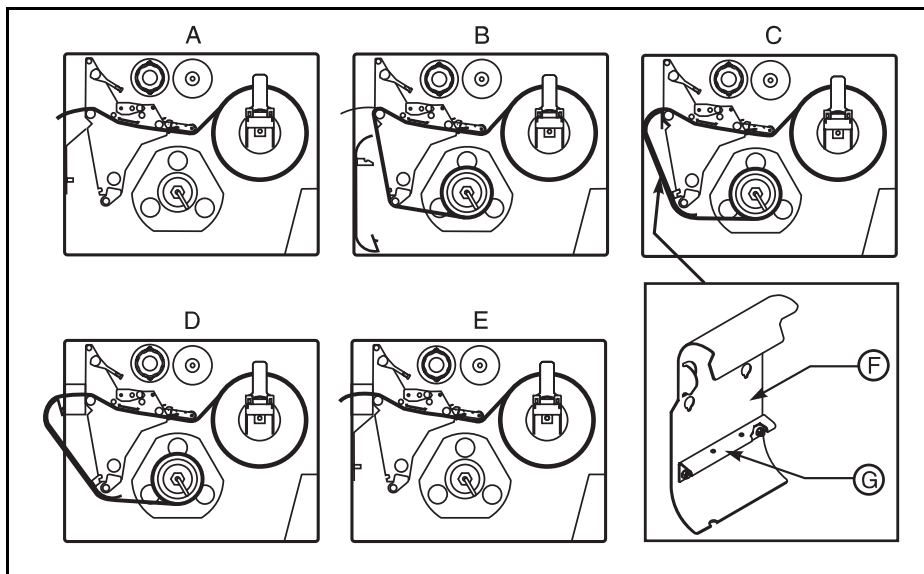

Figure 2. Roll Media Loading
### Roll Media Loading in Tear-Off Mode (Fig. 2-A)
## **Peel-Off Mode (Fig. 2-B)**
## **Rewind Mode (Fig. 2-C and 2-D)**
1. Remove the Media Rewind Plate (Fig. 2-F) from its storage location in front of the print mechanism inside the media compartment.
2. Invert the Rewind Plate so that the lip on the attached Hook Plate (Fig. 2-G) points down.
4. (Only for printers with Cutter/Rewind Option, Fig. 2-D). Insert the two small tabs on the Rewind Plate into the corresponding slots in the Cutter Support Bracket. The Rewind Plate should “spring” into the proper position.
### **Cutter Mode (Fig. 2-E)**
1. Load media according to the directions above for Tear-Off Mode, except feed the media through the cutter module as shown in Fig. 2-E.